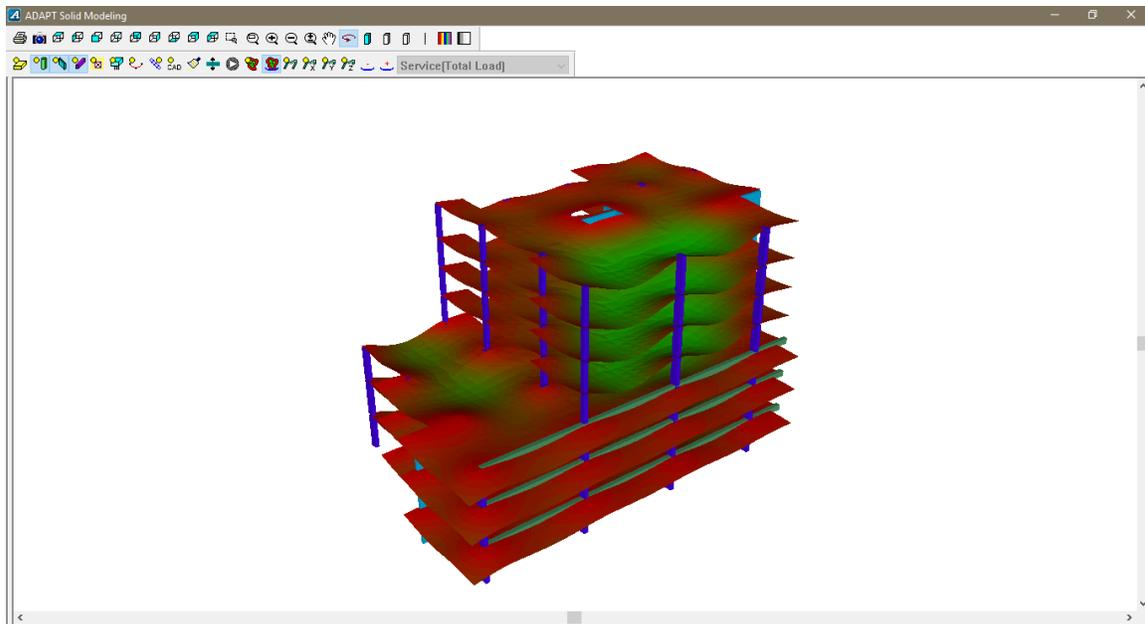

Figure 6-11
- Click on the *Warp Contour* icon  to warp the contours as shown in **FIGURE 6-11**.